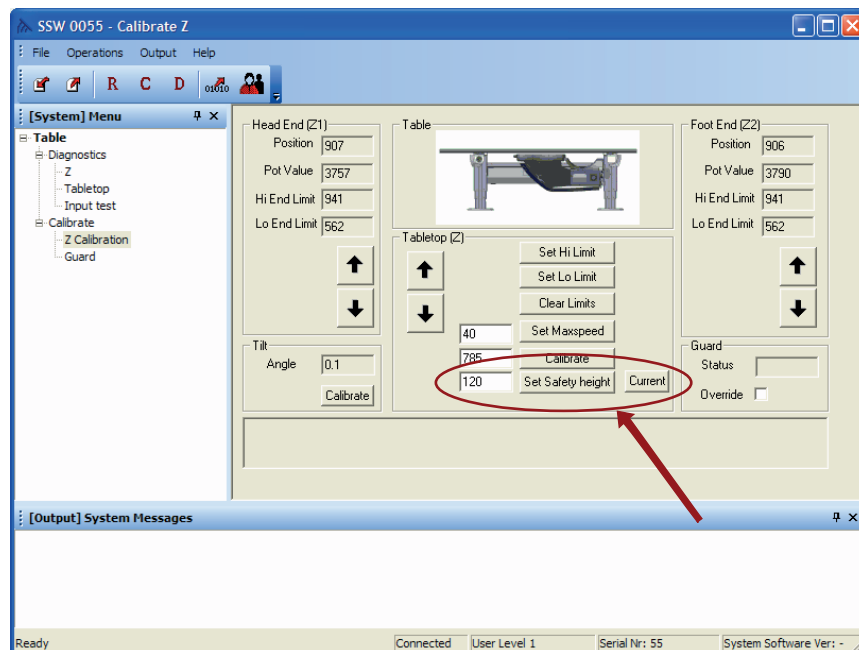

Fig. 4-157
3. Press the *Current* button beside the *Set Safety Height* button, see Fig. 4-157 .